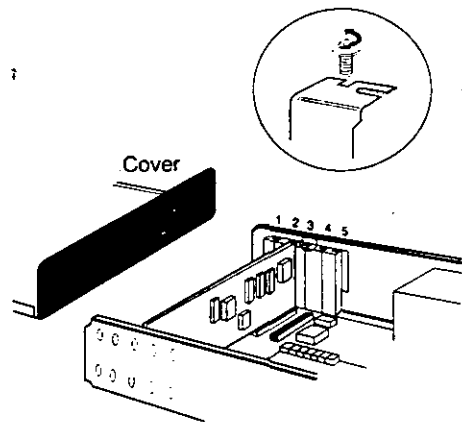

Figure 3. Removing the Backplate
3. Remove the expansion slot's backplate as shown in Figure 3.